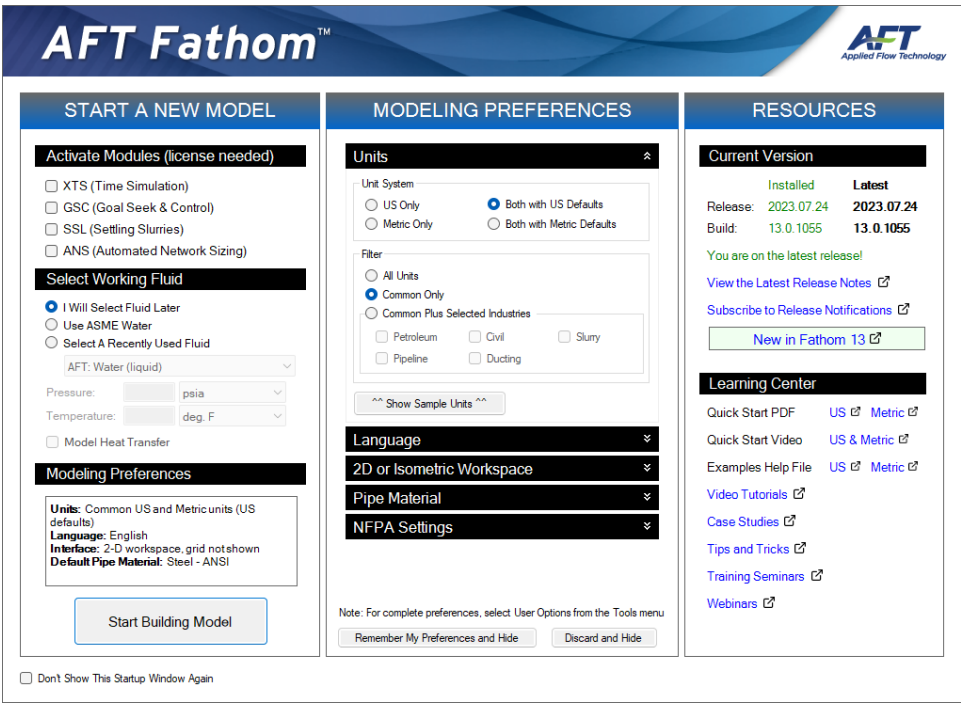

Figure 2: Startup Window showing Modeling Preferences
- **Modeling Preferences** - Displays various settings for the application, such as specifying the units to use, which grid to use, or whether to enable NFPA. These options can be modified later. Click the **Modify** button to reveal the following settings, as shown in Figure 2. Click the **Remember My Preferences and Hide** button to update the modeling preferences for the model and to update the default settings for the application.